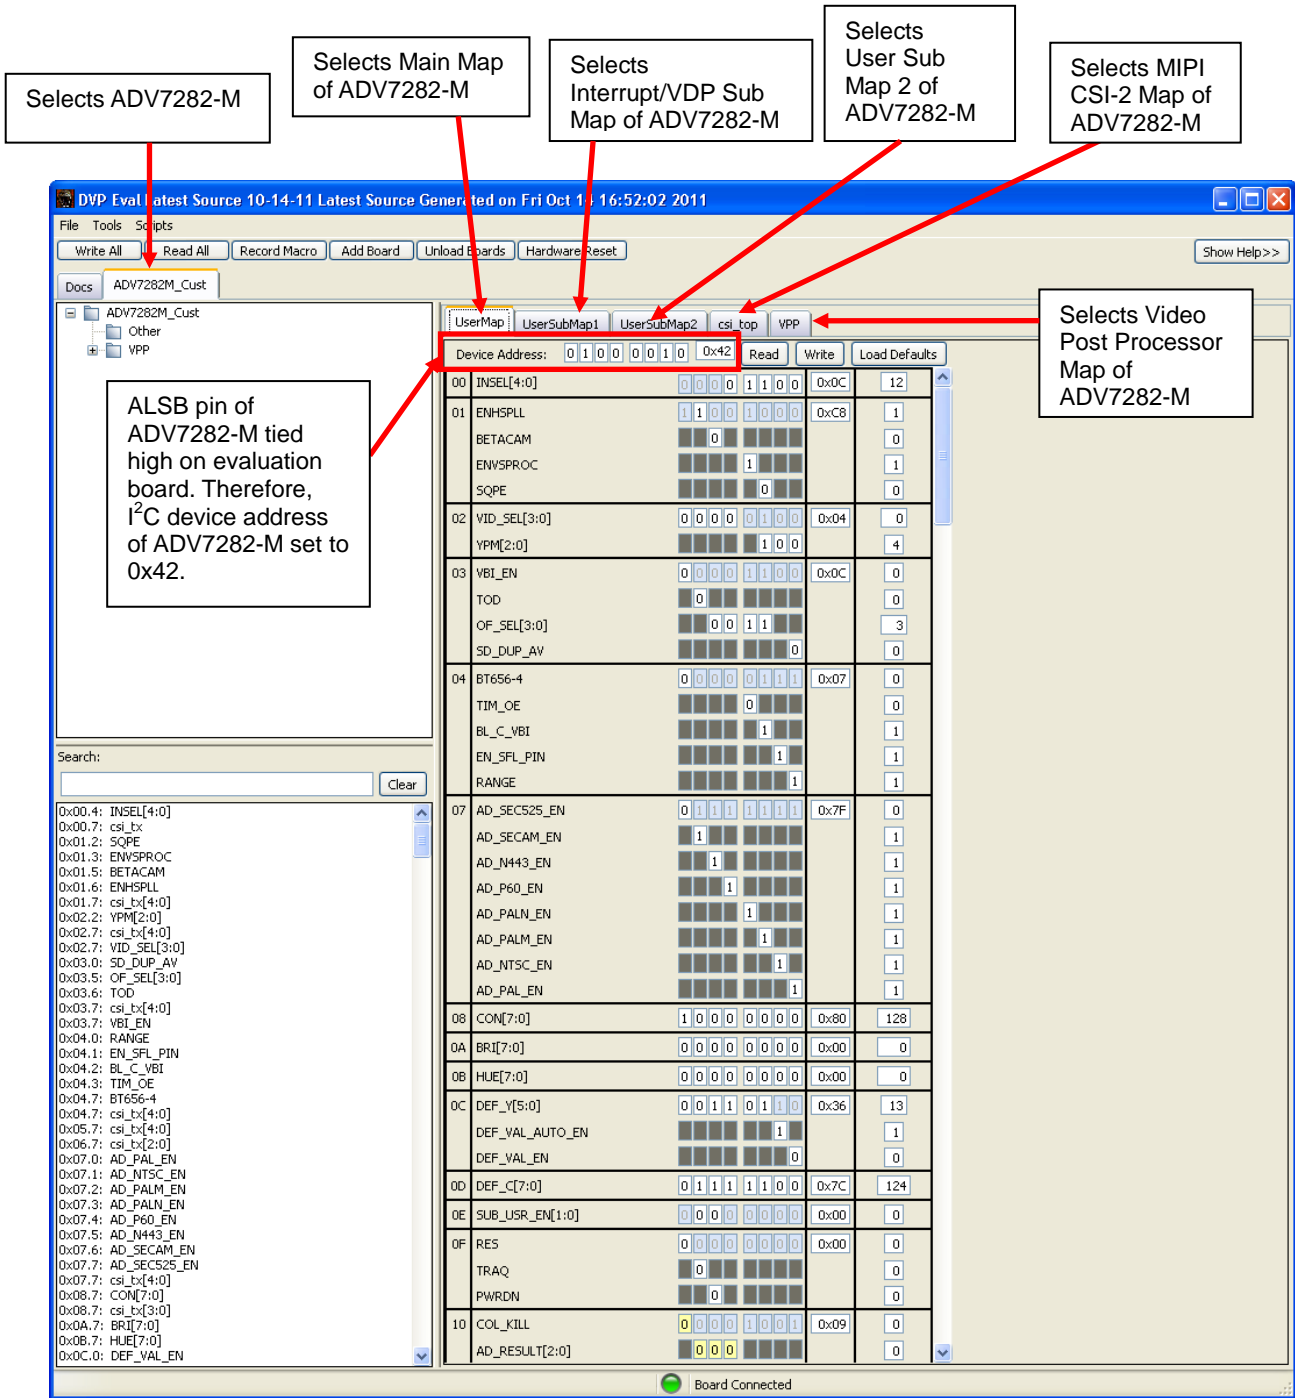

Figure 6. DVP Eval Program After Loading ADV7282-M Board
6. Press the **Load** button. A window similar to that shown in Figure 6 appears.
| Figure 6. DVP Eval Program After Loading ADV7282-M Board | 10 |